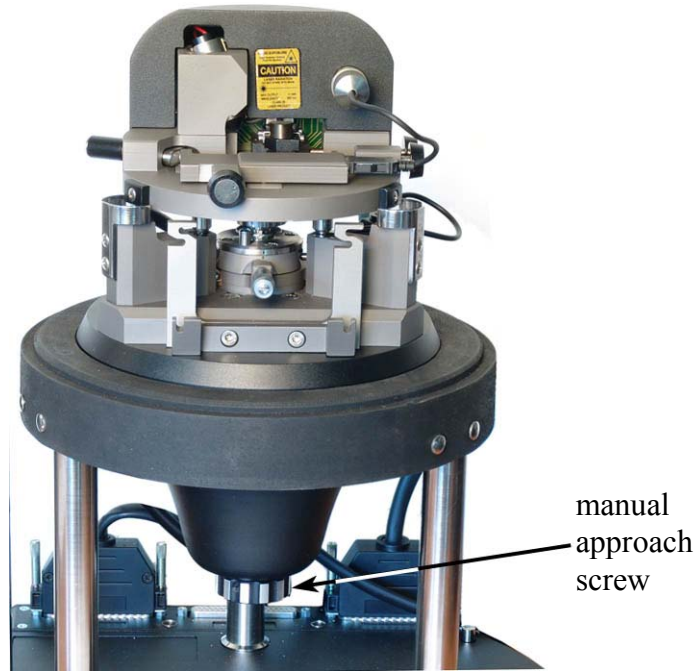

Fig. 2-17. Installation of the measuring head
3. Put the measuring head cable in its designated holder (Fig. 2-17).